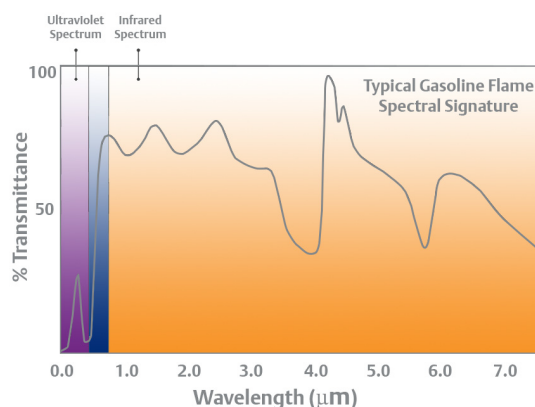

Figure 2: Combustion creates electromagnetic emissions across a wide range of wavelengths. This spectrum is typical of hydrocarbon combustion.
Regardless of the fuel source, flames and the resulting hot gases generate electromagnetic radiation in a variety of wavelengths (Figure 2) from ultraviolet (UV), through the visible spectrum and into infrared (IR). How much and in what wavelength depends on the fuel source. Hot carbon dioxide has a strong peak at 4.2 – 4.5 μm (micrometers) with hot water vapor at 2.7 μm. Flame detectors are typically designed to detect light emission at those wavelengths with intensity patterns common to open flames.